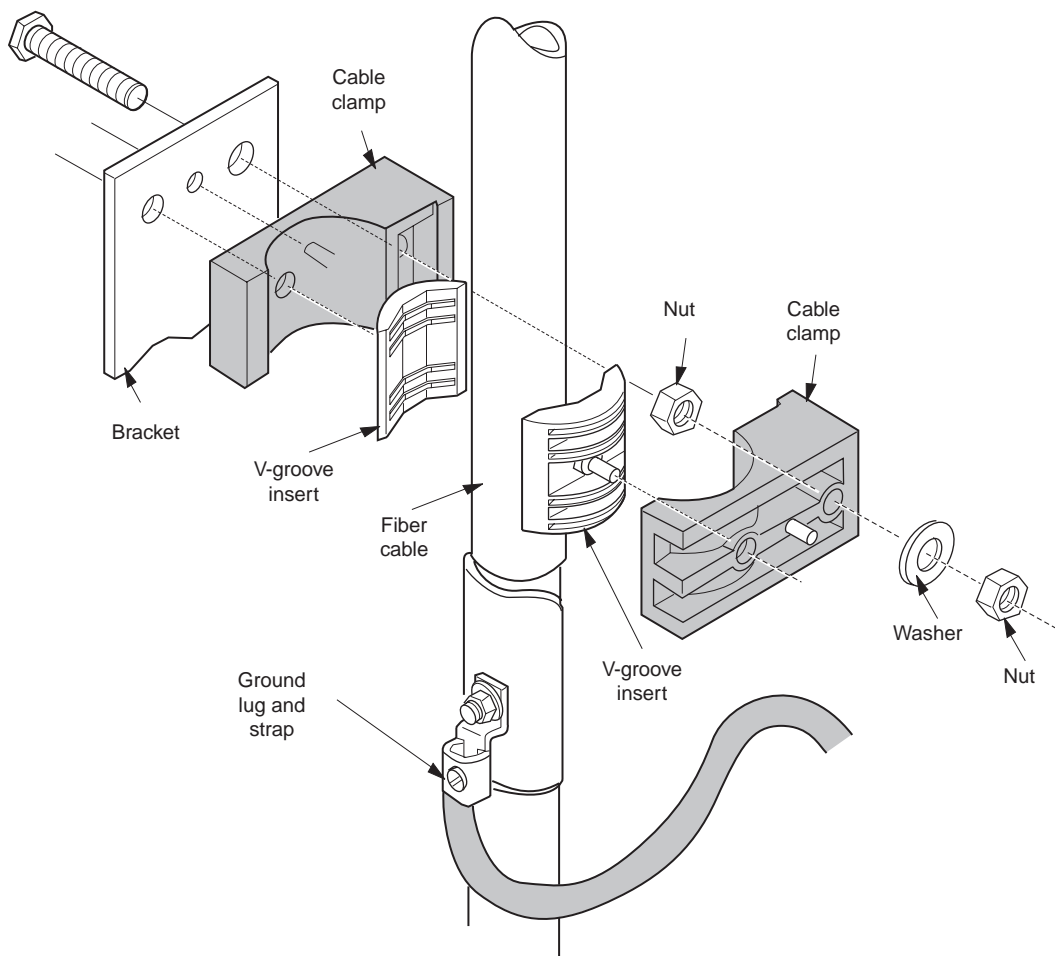

Figure 16. Fiber Cable Secured with 12A1 Clamps
- 5 Secure the outside plant cable(s) to the frame, using the cable clamp bracket provided with the 12A1 cable clamps as shown in Figure 16. Mount the 12A1 clamp on the left vertical support, about 3 inches (76 mm) below the bottom of the termination shelf.